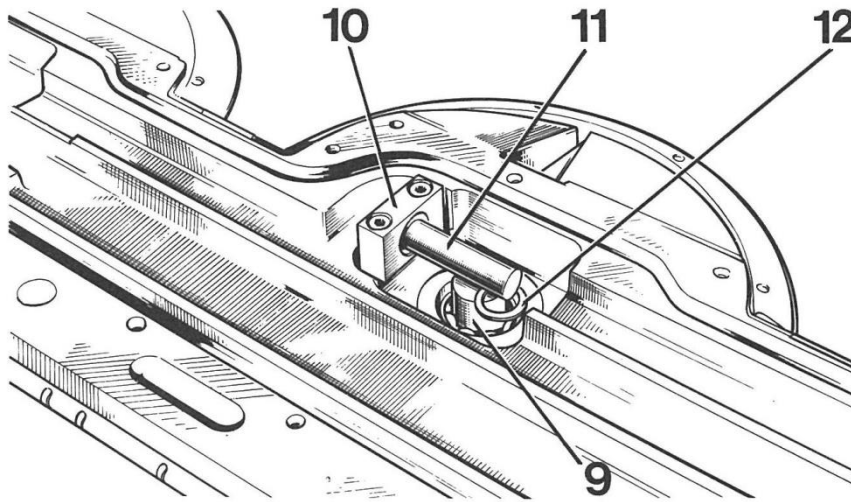

FIG. 9
- using the press used for extraction, reassemble all the bearings (6), the seal (7) and the spacer (8) as shown in figure (8);
- in place of the shank pinion, place the vertical pin (9) then fit and tighten the false bearing (10) fitted with its horizontal pin (11) to 4 m.kg [40 N.m];
- find among a set of shims supplied as spare parts, the one (2) sliding freely but without play between the studs (See Fig. 9);
- remove the bolts then refit the 18-tooth shaft pinion with the positioning shim (2) determined previously.